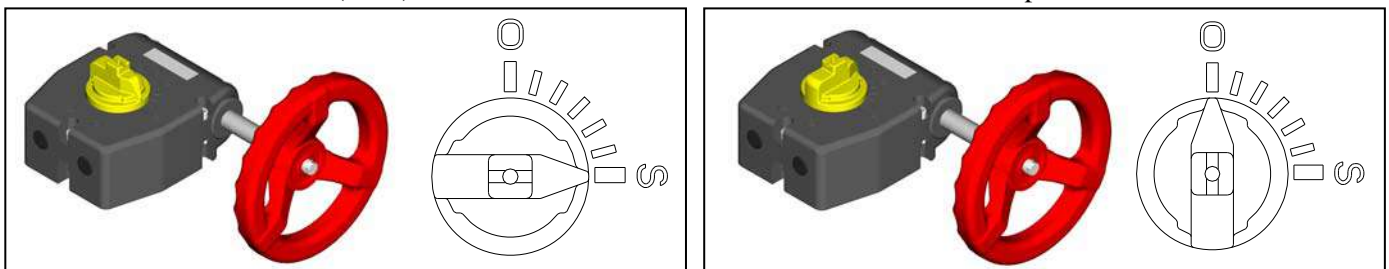
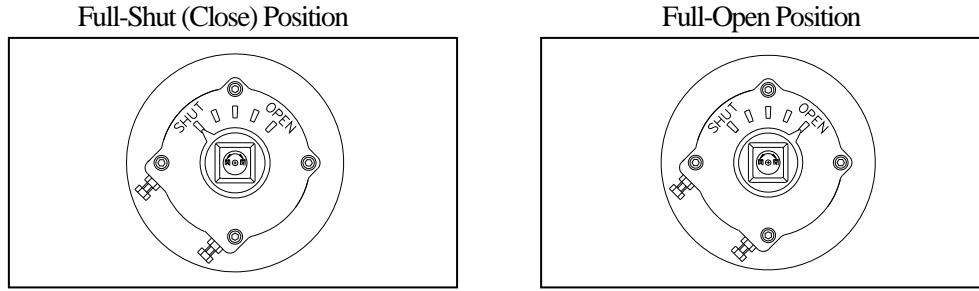

Fig.9-2
Fig.9-3
- 3) In case of gear type (40-350 mm { 1 1/2''-14''}), the indicator shows the position of the disc on the top of gear box. (Fig.9-2, Fig.9-3)
- For the full-shut (close) position, the indication shows Shut (S).
- For the full-opened position, the indication shows Open (O).